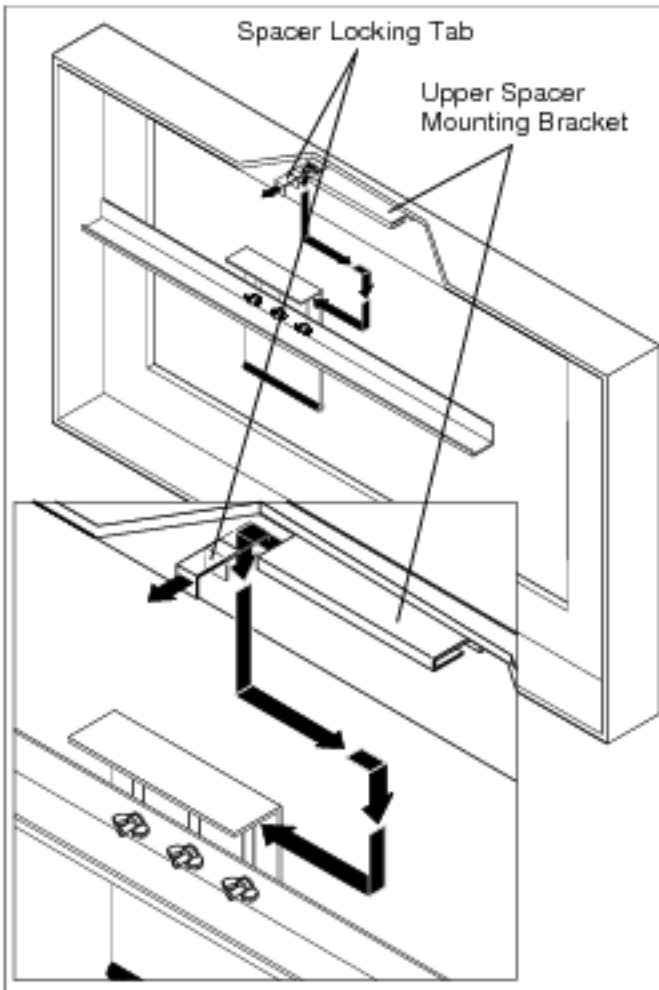

Figure 2
1. Lay frame face down on a clean, dry, smooth surface. (See Figure 2)
3. Slide spacer assembly to left until free of *UPPER* spacer mounting bracket and remove from frame. (See Figure 2)